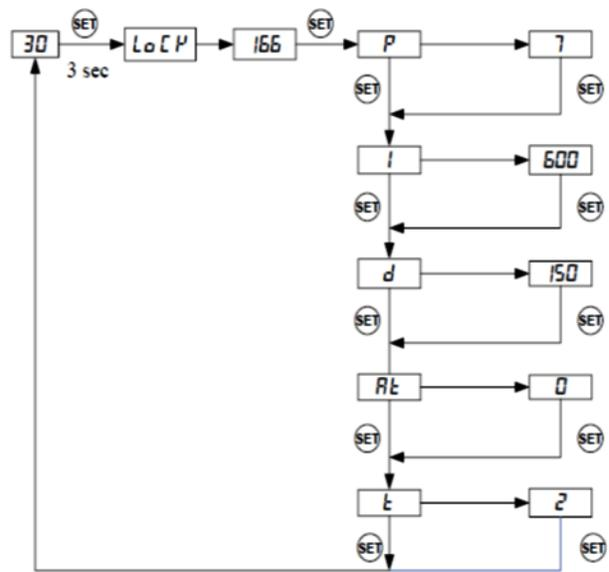

Figure 4. Code 166 parameter setup
To activate auto-tuning, just enter code 166 to get into the PID setting menu. Set Γ to 1 then exit the menu (see **Figure 4**). The display will start to flash alternately between Γ and current temperature, which indicates auto-tuning is in progress. When the display stops flashing, the auto-tuning is finished. Now, the newly calculated PID parameters are set and are used for the system. The new parameters will store in the memory even the power is off.
- LoCK. Parameter lock. This function is used to prevent user to change the critical parameters by accident. User has to enter the code **166** to access the parameter setting menu (**Figure 4**).